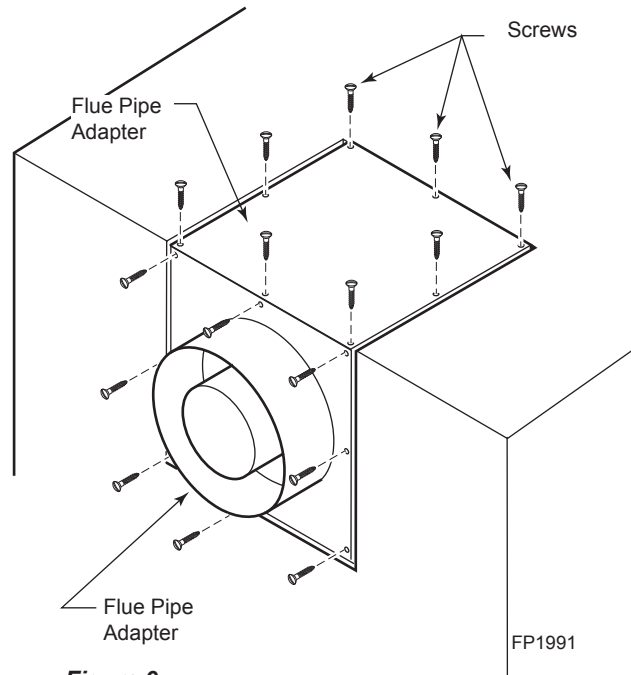

Figure 9 - Remove 16 Screws from Flue Pipe Adapter and Flue Pipe Cover
1. Remove the eight (8) screws securing the flue pipe adapter to the fireplace body. *Figure 9*
3. Remove the eight (8) screws securing the flue pipe cover to the top of the intake box and remove the cover and gasket. *Figure 9*